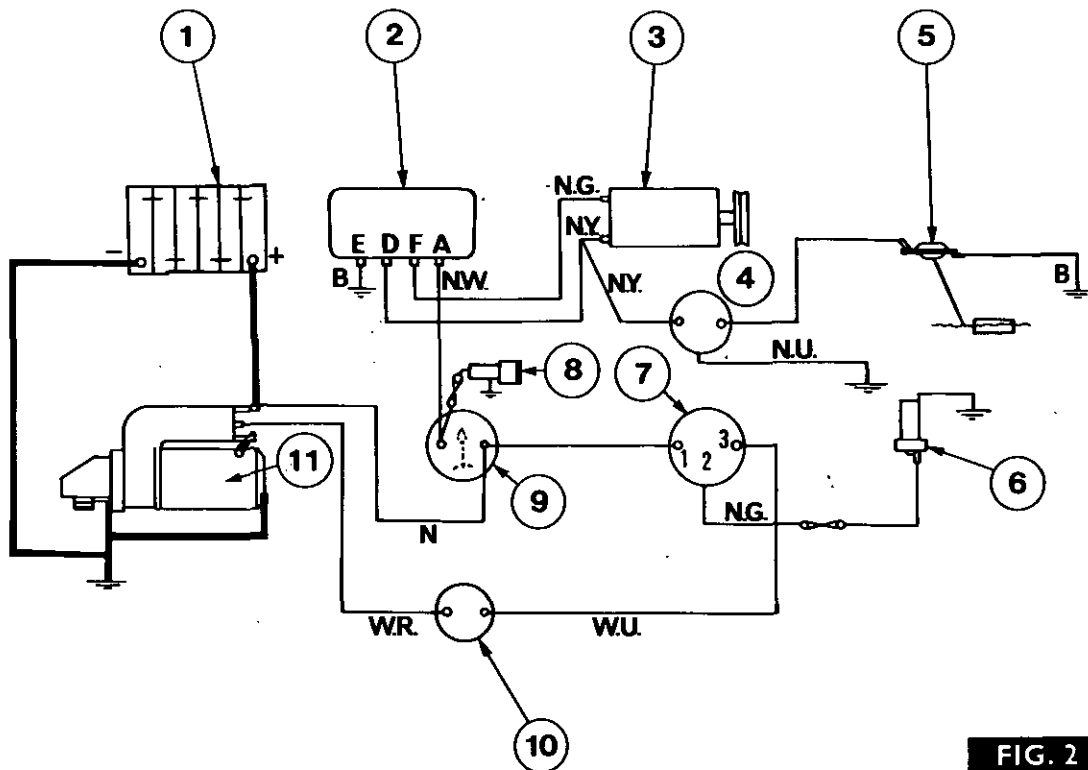

FIG. 2
**Key to Fig. 2**
**Colour Code Fig. 2**